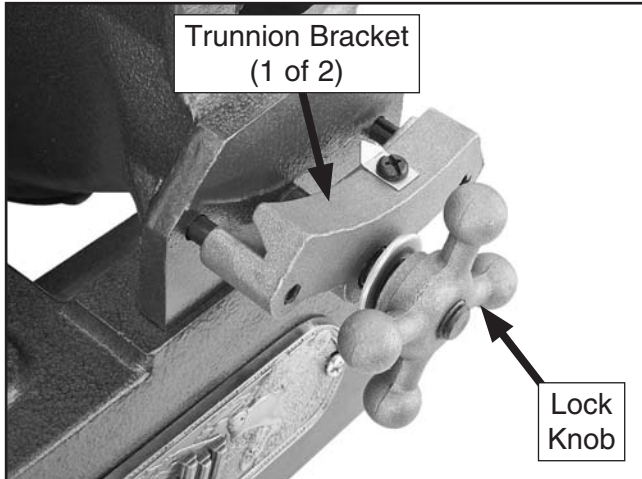

Figure 18. Lock knob and trunnion bracket positioned to receive the table trunnion.
- Loosen the sanding disc table lock knobs, then move the trunnion brackets away from the lower disc guard, as shown in **Figure 18**.